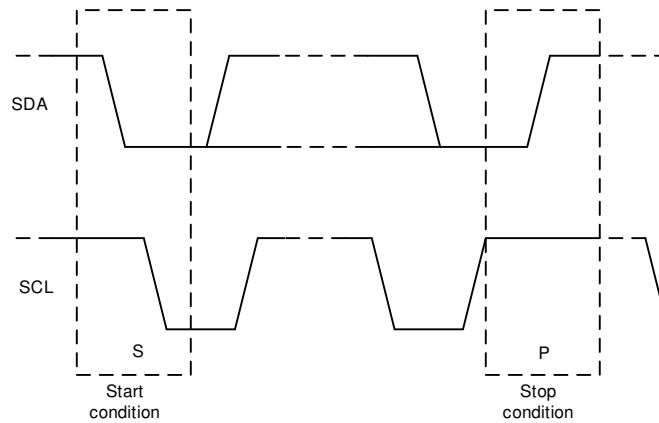

Figure 60. Start and Stop Conditions
1. The master initiates data transfer by generating a start condition. The start condition is when a high to-low transition occurs on the SDA line while SCL is high, as shown in Figure 60. All I²C-compatible devices recognize a start condition.
4. To signal the end of the data transfer, the master generates a stop condition by pulling the SDA line from low to high while the SCL line is high (see Figure 60). This action releases the bus and stops the communication link with the addressed slave. All I²C-compatible devices recognize the stop condition. Upon receipt of a stop condition, the bus is released, and all slave devices then wait for a start condition followed by a matching address.